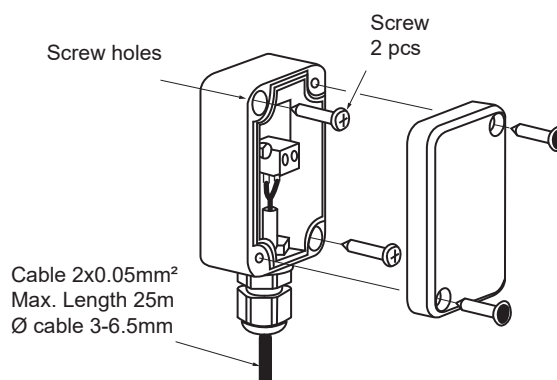

Figure 3-7: Outdoor weather sensor
1. Remove the front of the sensor housing. (Refer to Figure 3-7).